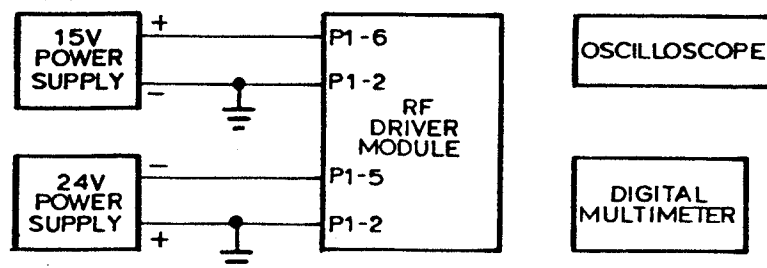

Figure 1 Test Setup for NAPE12 RF Driver Module
- (b) Connect the NAPE12 rf driver module to the test setup depicted in figure 1.